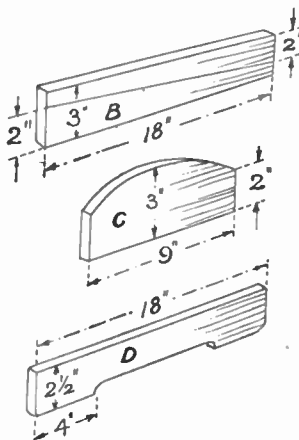

Fig. 4—Details of the main parts
The two sides (B) should next be prepared and fixed. In the upper diagram in Fig. 4, is shown the method of cutting the two pieces from the one panel of wood measuring 18ins. by 3ins. By working like this, economy of wood is effected. The panel may be cut with
The back rail (C) is next cut, and glued and screwed to the floor. The measurements to which this rail must be cut are shown in the second diagram in Fig. 4. The curve at the top edge of the rail may be struck with a pin, or fine wire nail and string. Take the string, form a loop at one end of it and pass this over the nail which must be 10ins.
The two side rails (D) are next made, and glued and screwed through the floor. The measurements for these rails are given in Fig. 4. They stand in